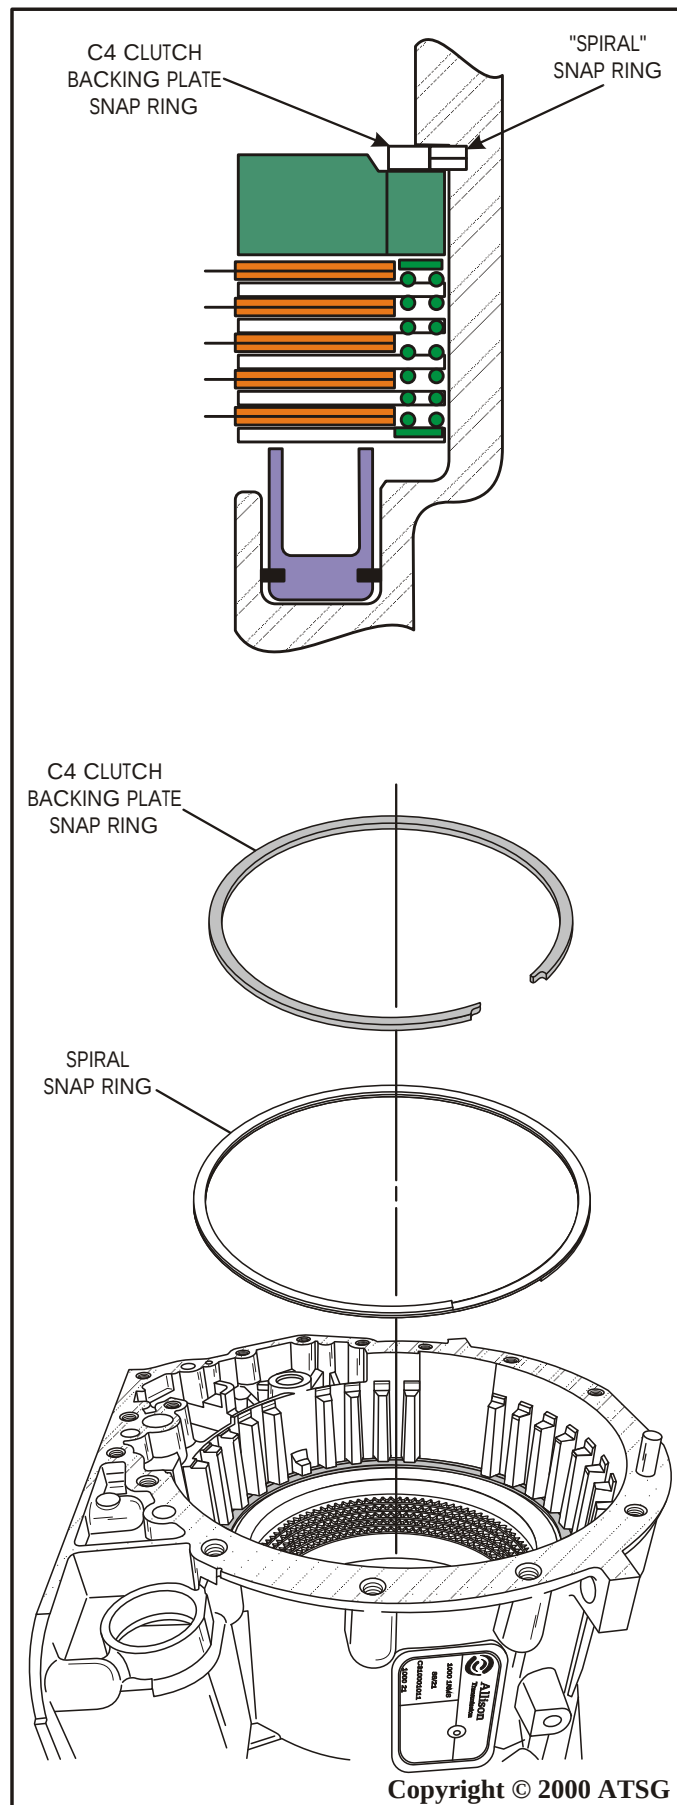

Figure 151
8. Install the "spiral" snap ring into case groove as shown in Figure 151.
9. Install the C4 clutch backing plate snap ring into the **same groove as the spiral snap ring**, as shown in Figure 151.